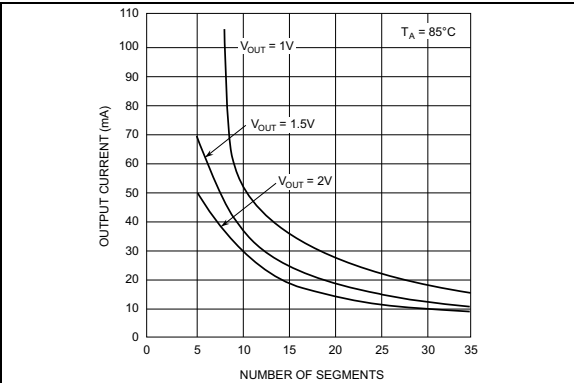
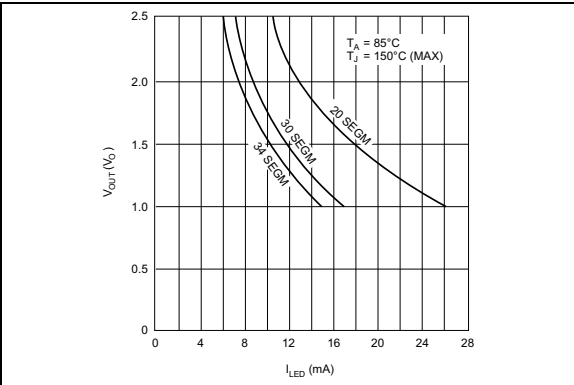
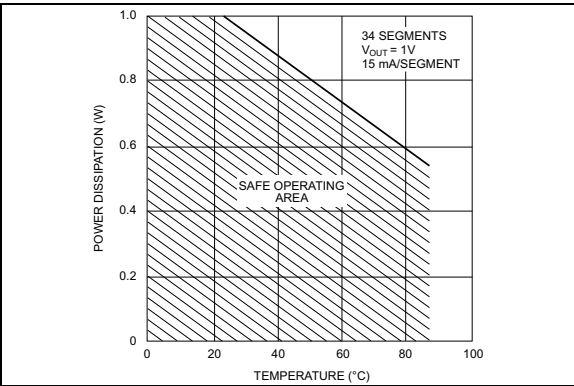

FIGURE 2-1: Output Current vs. Number of Segments.
FIGURE 2-2: Output Voltage vs. LED Current.
FIGURE 2-3: Power Dissipation vs. Temperature.
- 2:** See Figure 2-1, Figure 2-2, and Figure 2-3 for recommended operating conditions and limits. Absolute maximum for each output should be limited to 40 mA.
- 4:** V_{OUT} should be regulated by user. See Figure 2-2 and Figure 2-3 for allowable V_{OUT} vs. I_{OUT} operation.
Equation 3-1 is used to plot Figure 2-1, Figure 2-2, and Figure 2-3.